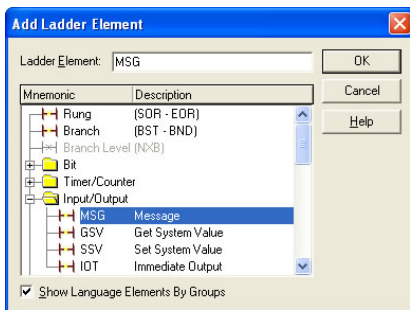

Figure 94: Adding a MSG Instruction
- Select the “MSG” instruction in the Input/Output folder. Refer to Figure 94.